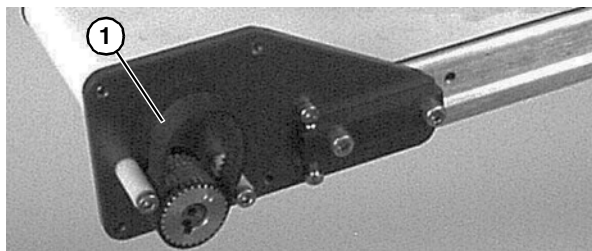

Figure 50
4. Remove timing belt (**Figure 50, item 1**).